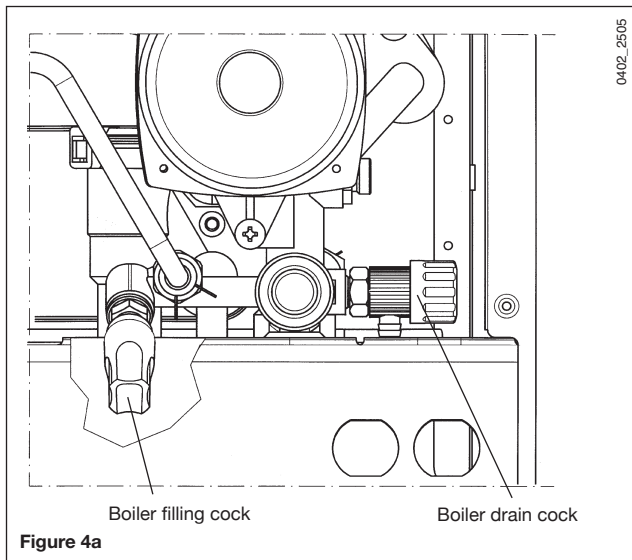

Figure 4a
**Important:** Regularly check that the pressure gauge (8 - figure 1) reads out a pressure of 1 - 1.5 bar when the central heating system is cold. Open the boiler drain cock to reduce pressure if it is too high. Open the boiler filling cock (figure 4a or 4b) to increase pressure if it too low.